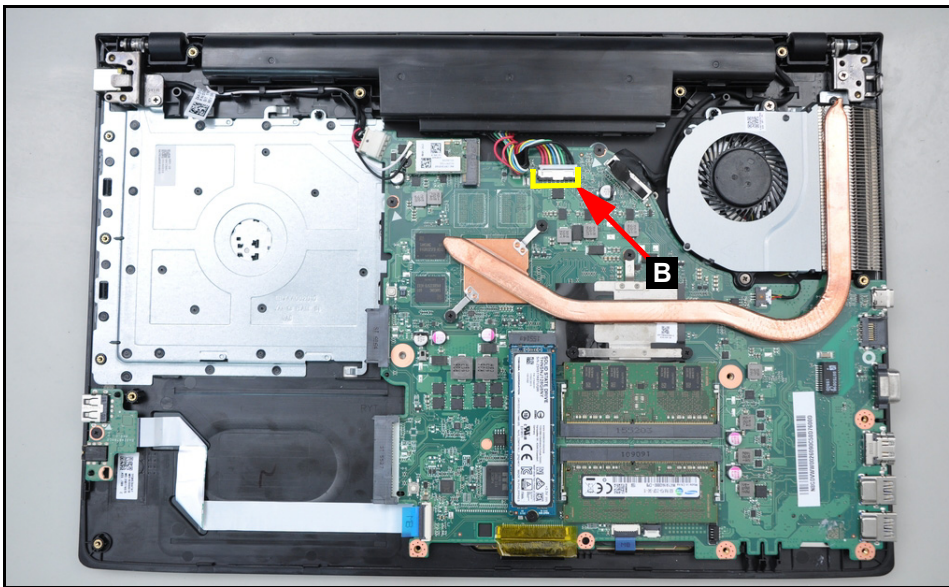

Figure 3-106. Replacing the Battery Pack
2. Connect the battery cable to the mainboard connector (B) (Figure 3-106).